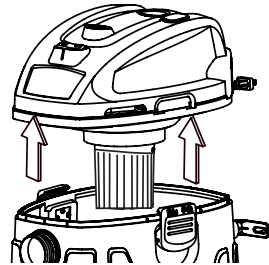

Fig. 16
24. Disconnect the hose 12 from the vacuum. Undo the latches 4 and remove the power head 8 from the collection tank. Fig. 16. Place power head on soft, clean surface upside down. Clear all dirt or debris from the collection tank and hose. Place power head back onto the collection tank and secure latches.